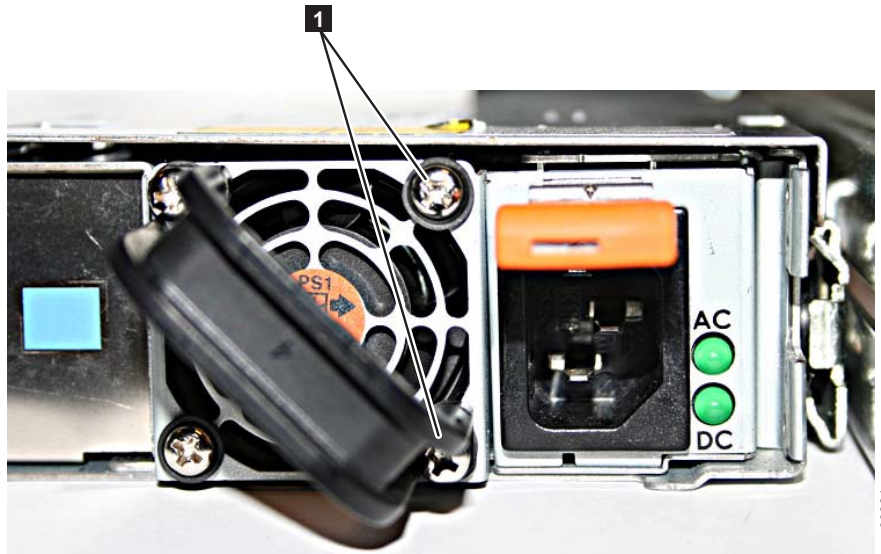

Figure 65. The SAN Volume Controller 2145-8G4 before you attach the cable retention bracket
1. With the node powered off and the power cable removed, loosen and remove the two screws **1** on the right side of the rear plate that covers the power supply fan unit, as shown in Figure 65 on page 338.